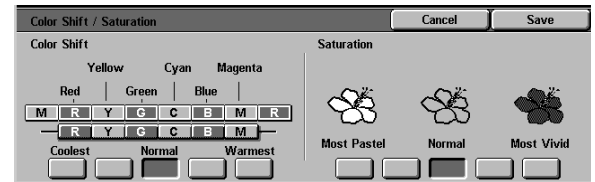

Figure 32: Color Shift/Saturation screen
The flower illustrations on the Color Shift/ Saturation screen (Figure 32) help you anticipate the results of the requested shift. The left flower illustrates the lightest pastel setting of saturation. The right flower illustrates the richest or most vivid saturation. The center flower represents the default Normal saturation. No change is made to the flowers based on your selection.
- 1 Touch the **Color Shift/Saturation** button on the Image Quality tab to display the Color Shift/Saturation screen, as illustrated in Figure 32.